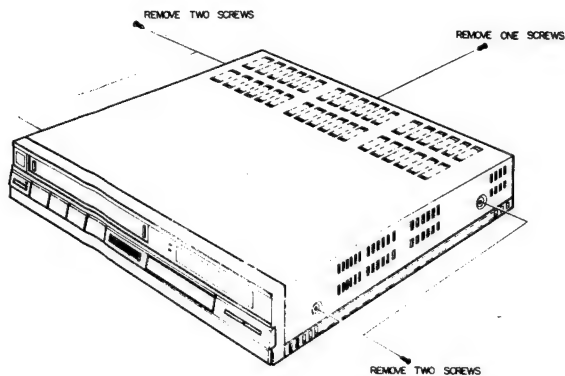

Fig.1
#### 2-1-1. Top Cabinet Removal (Fig.1)
(See Figs1,2)
(See Figs.1 to 3)
(See Fig.1 to 3)
1. Remove the top cabinet and Regulator circuit board. (See Figs 1,8)